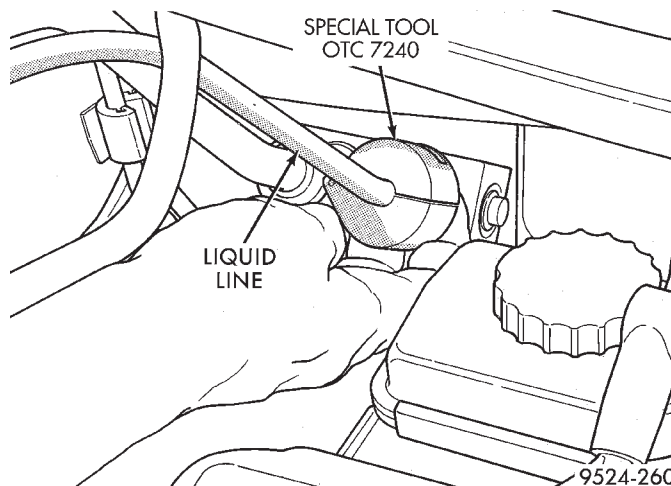

**Fig. 59 Use Special Tool 7240 For Quick Connect**
(3) Disconnect quick connector on expansion valve. Remove liquid line from expansion valve. Use Special Tool kit 7193 to disconnect quick connector (Fig. 59).